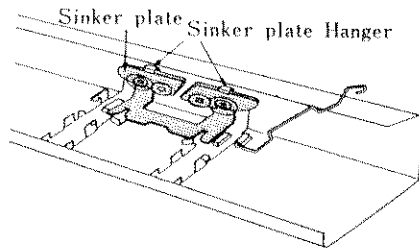

Fig. 23
5. Replace the sinker plate in side of the upper carrying case (see Fig. 23)